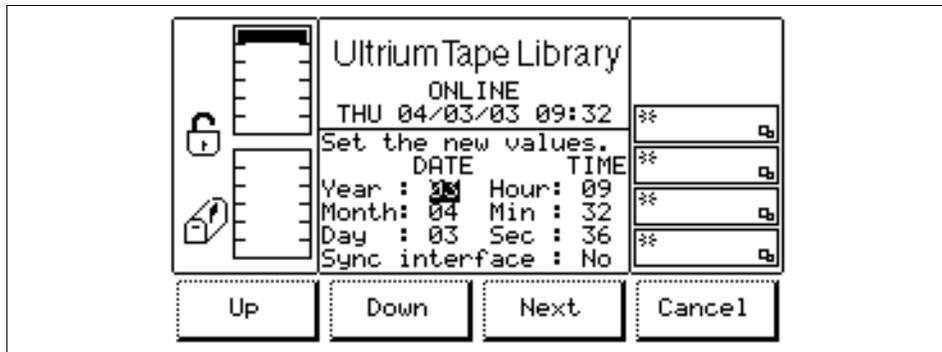

Figure 7-8 IBM 3583 operator panel: input field
- ▶ Most fields on the menus, submenus, dialogs, and screens are read-only. Those fields that are writable are shown in reverse video (Figure 7-8).